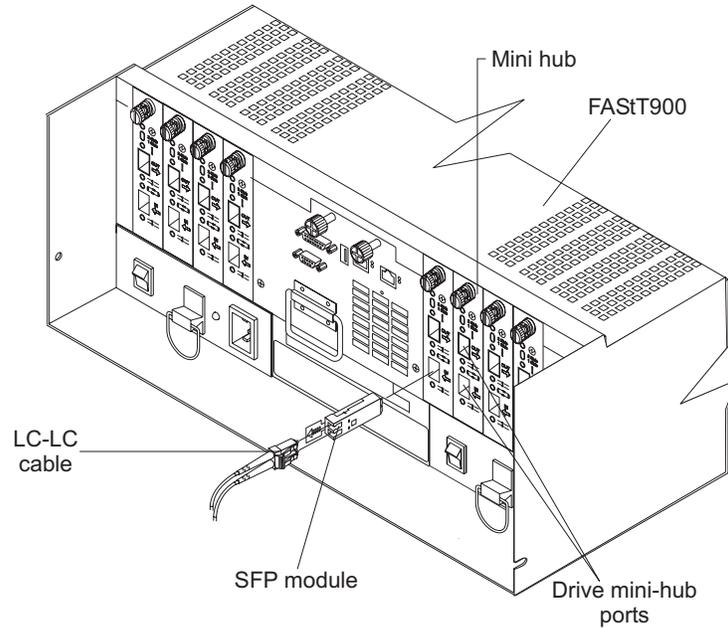

Figure 34. Installing an SFP module and LC-LC cable in a FASt900
2. Connect an LC-LC fiber-optic cable into the SFP module, as shown in Figure 34 on page 55.